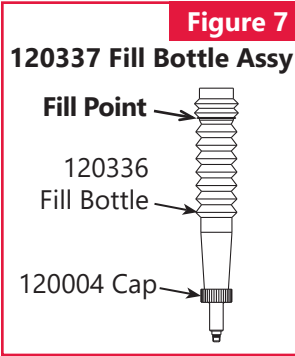

Figure 7
- Fill Bottle (Fig. 7, supplied with tool)